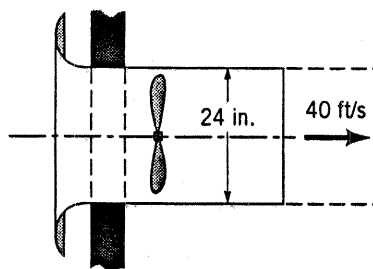

FIGURE P5.88
5.88 If a $\frac{3}{4}$ -hp motor is required by a ventilating fan to produce a 24-in. stream of air having a velocity of 40 ft/s as shown in Fig. P5.88, estimate (a) the efficiency of the fan and (b) the thrust of the supporting member on the conduit enclosing the fan.